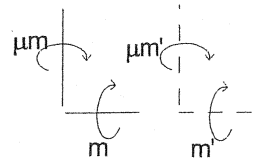

Figure Q1
- c) You are assigned a task to assess an existing reinforced concrete slab. The slab is orthotropically reinforced and supported as shown in Figure Q1. The yield moments per unit length of reinforcements, which are provided to resist sagging moment and hogging moment of the slab, are m and m' ($=1.2 m$), respectively. Yield moments for each direction of the slab are shown in Figure Q1, and parameter μ can be assumed as 0.5. Yield moment for beam reinforcements is assumed to be $1.5mL$.
- Draw a possible yield line pattern for the slab shown in Figure Q1.